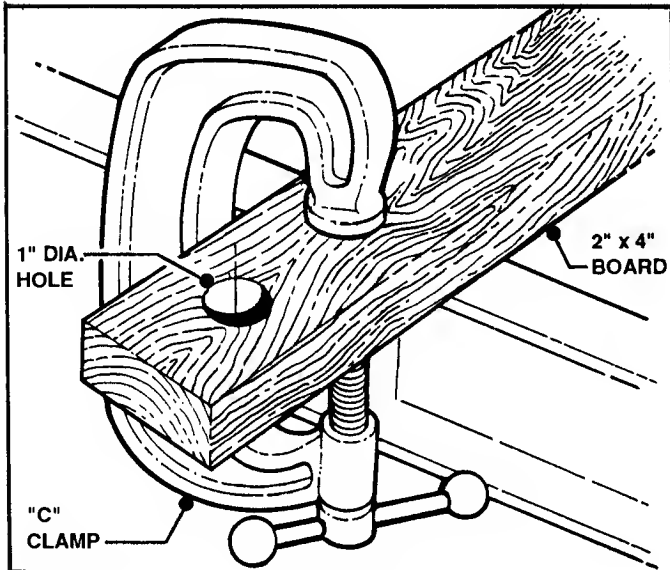

FIGURE 5.7
2. Drill a 1" hole through board if using. See Figure 5.7.